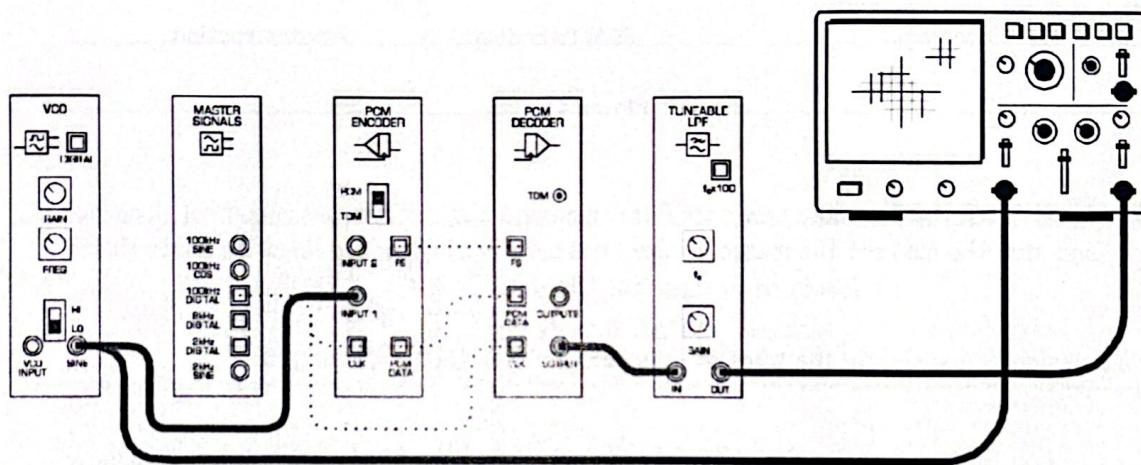

Figure 10
34. Modify the set-up as shown in Figure 10 below.